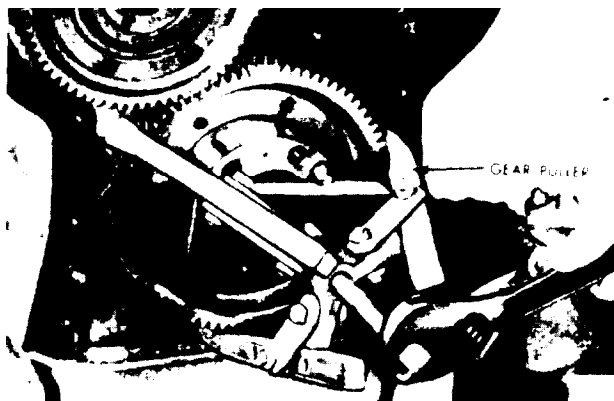

Figure 11B-168. Removing Crankshaft Timing Gear
The blower drive gear is mounted on the blower drive gear support and in addition to driving the blower, drives the governor, water pump and fuel pump. The drive is cushioned by a spring loaded flexible coupling, see Figure 11B-169 on page 11B-112 and Figure 11B-173 on page 11B-115, which insures a uniform rotation of the blower rotors. The right hand helix blower drive gear is driven by the balance shaft gear (see Figure 11B-144 on page 11B-93). The ratio of blower speed to engine speed is 1.55 to 1.
1. Remove the six bolts (94 and 95) that secure the flywheel housing small hole cover (92, Figure 11B-169).
2. Refer to Figure 11B-172 on page 11B-113 and remove the snap ring and pull the blower drive shaft out of the drive assembly.